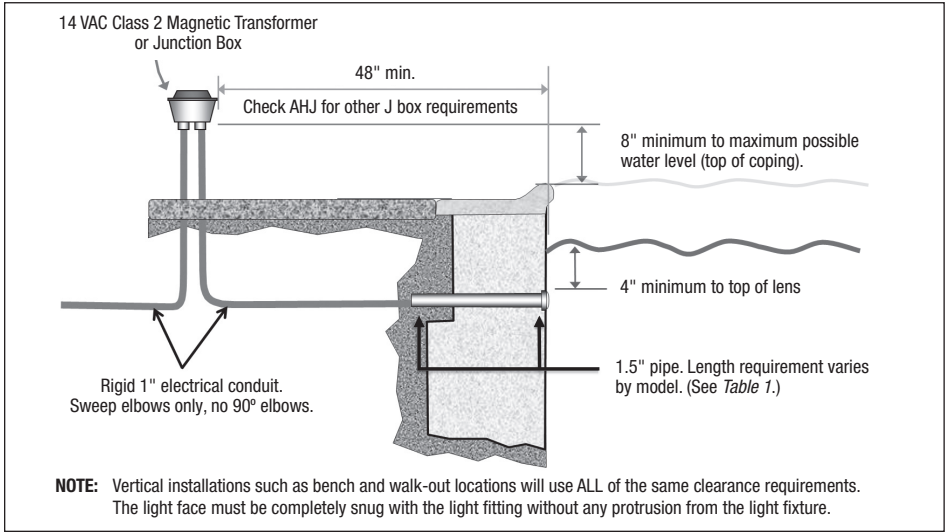

Figure 1. Jandy LED Light Installation with Standard 1.5" Plastic Fitting
NOTE: The electrician must complete preparatory steps before light fixture is installed. See *Figure 1*.
1. The junction box or Infinite WaterColors LED Light Controller is suitable for direct conduit connection to lights and must be located at least (8) inches above water level, at least four (4) inches above ground level, and at least 48 inches (4 feet) from the edge of the pool, or as required by local code. See *Figure 1*.
3. A standard 1.5" plastic wall / return fitting (not included) must be installed so that the top edge of the underwater light's lens is at least 4 inches (10.2 cm) below the surface of the water in the pool. See *Figure 1*.